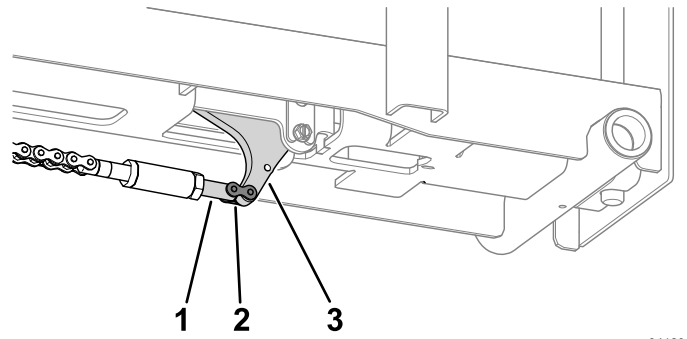

**Figure 13**
5. Use a chain link to install the chain to the chain turnbuckle (Figure 13).
6. Install the hex shaft to the chain turnbuckle (Figure 13).
7. Use a jam nut to install the chain-link turnbuckle to the hex shaft (Figure 13).